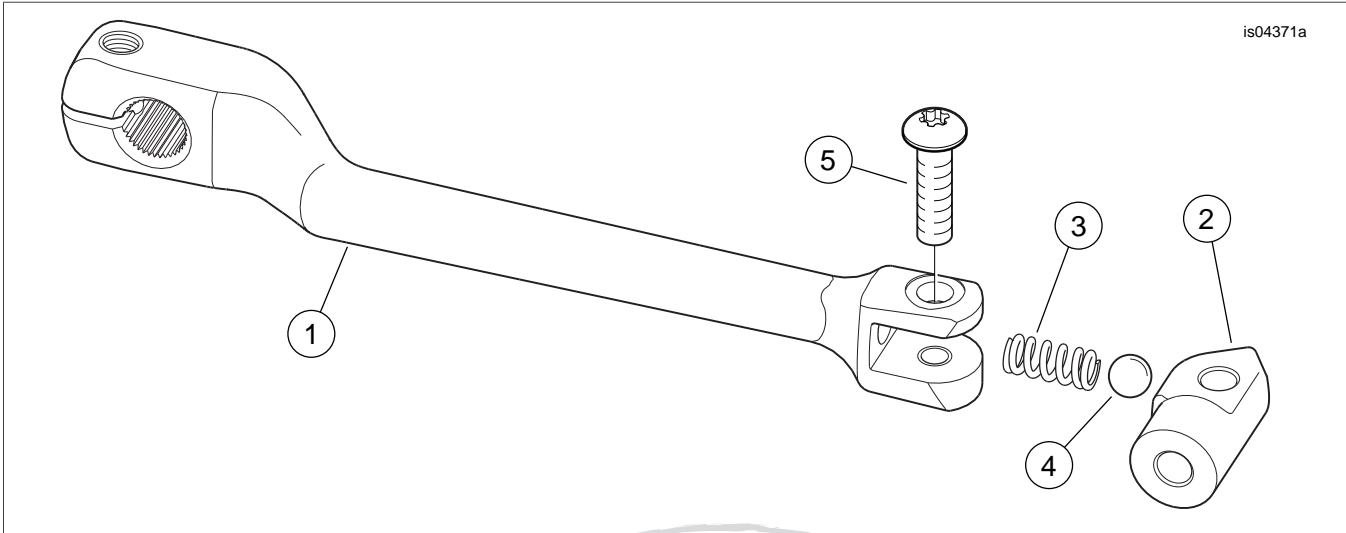

Figure 1. Service Parts, Folding Heel Shifter Kit
See Figure 1 and Table 1.
2. See Figure 1. Obtain the **new** heel shifter assembly (1) from the kit. Position the lever so the screw hole counter-bore is at the bottom. Position the shift lever to the desired angle, and slide the lever onto the splined shifter shaft.